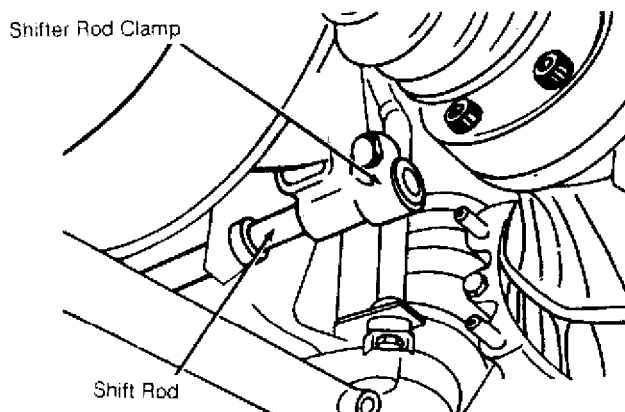

Fig. 6: Shift Rod Clamp (Golf, GTI, Jetta & Jetta GLI)
1) Place shift lever in the "Neutral" position. Ensure that transaxle is also in the "Neutral" position. Loosen lower shifter rod clamp. See Fig. 6. Selector lever must move freely on shifter rod.